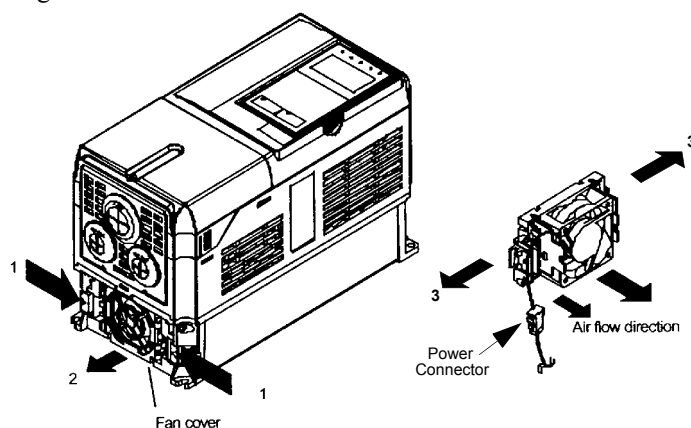

Figure 7.1 Cooling Fan Replacement Procedure
3. Pull out the cable connected to the fan from the fan cover and disconnect the power connector. See Figure 7.1.